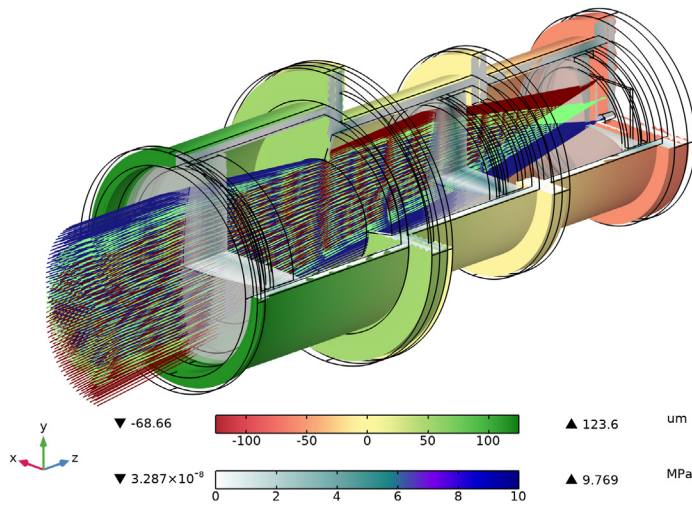
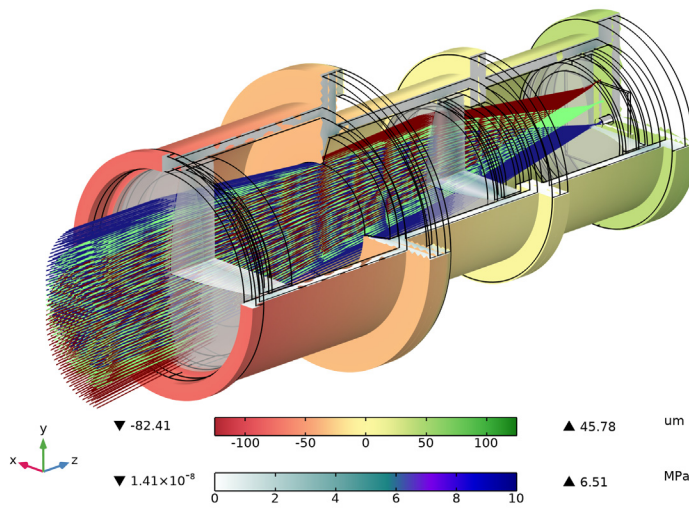

Figure 6: In this ray trace, the displacement field is shown together with the von Mises stress for a temperature $T = -25^{\circ}\text{C}$.
Figure 9: In this ray trace, the displacement field is shown together with the von Mises stress for a temperature $T = 50^{\circ}\text{C}$.
Figure 6 to Figure 9 shows the same stress plots together with the absolute lens displacement.
- 4 In the **Displacement** toolbar, click  **Plot**. Compare to Figure 6.
- 10 In the **Displacement** toolbar, click  **Plot**. Compare to Figure 9.